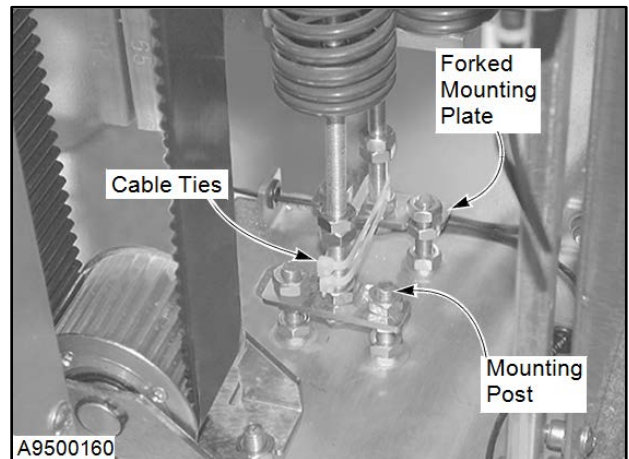

Figure 70
12. Attach the spring pack to the mounting posts on the base plate. Tighten the lower nuts against the bottom of the mounting plate to retain the preload setting of the spring pack. (See Figure 70.)